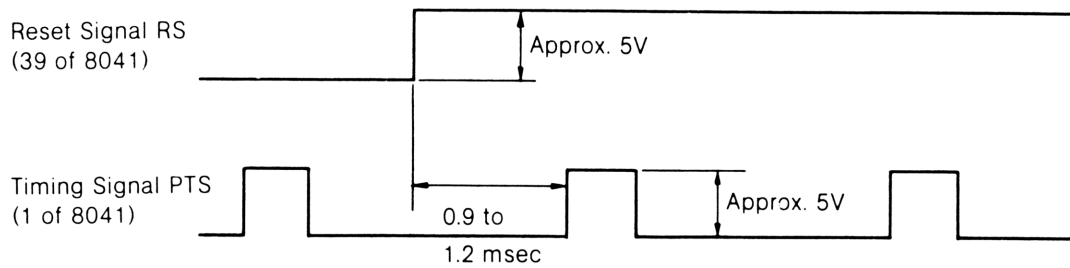

Figure 4-2. PTS Signal Waveform
1. Observe the PTS signal at pin 39 of the 8049. The signal will have a period of approximately 2.08 ms, with a duty cycle of nearly 50%. See the illustration, figure 4-2.
1. Run the printer self test. This is done by turning the printer on, while holding the LINE FEED switch pad down. The printer should begin to print out its entire character set, offsetting the set by one on each consecutive line. See the self test results, figure 4-2.